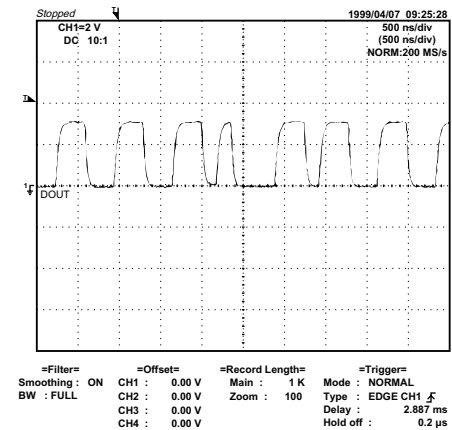

Figure 7
1. When playing at normal speed. Check the peripheral circuit at pin 69 (DOUT) on IC801 and the waveform (Figure 7).